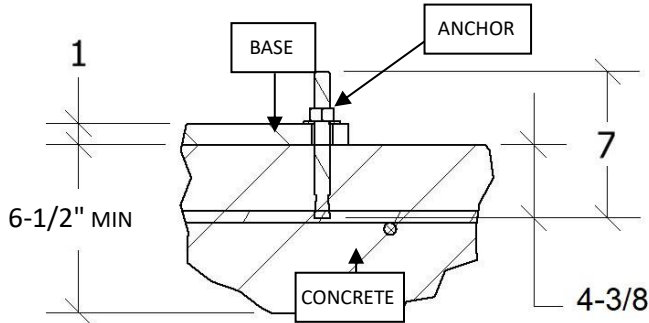

FIGURE 7 : CONCRETE BASE
1. **FLOOR SPECIFICATIONS:** VERIFY AND MEET FLOOR SPECIFICATIONS BEFORE INSTALLATION. SEE **FIGURE 7.**